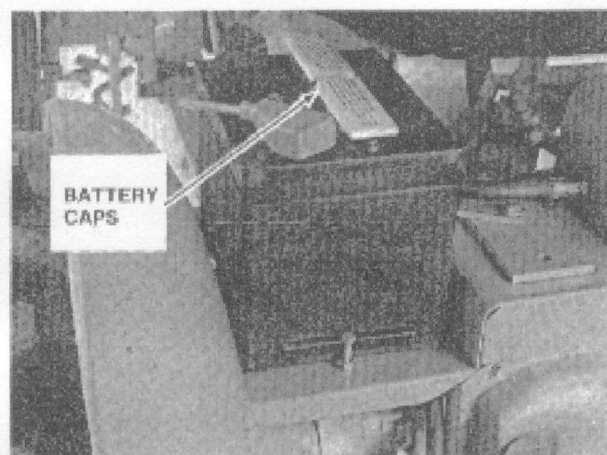

Figure 7. Battery
- b. Remove battery caps (fig. 7) and check level of electrolyte. If low, add clean distilled water until level reaches bottom of filler tube.